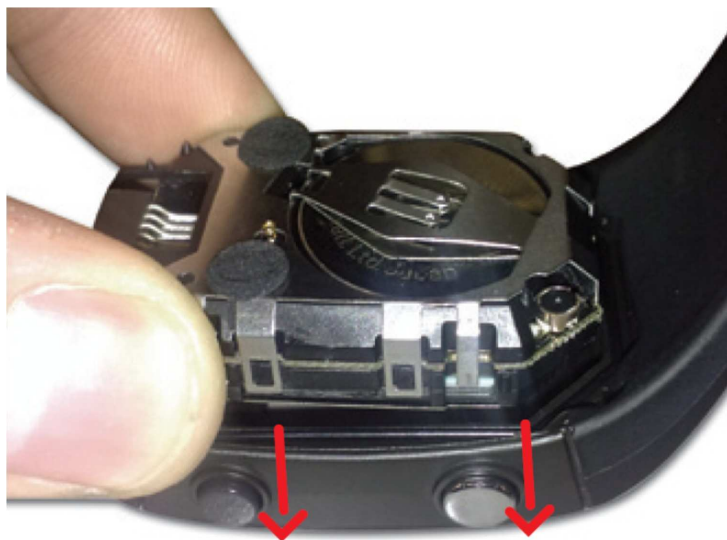
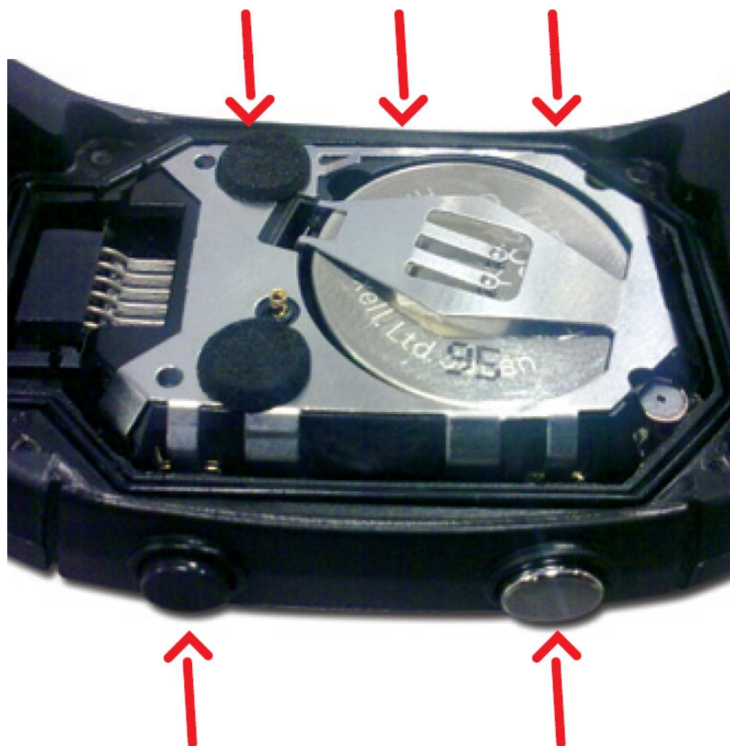

Figure 4-4. Chronos Watch Module Insertion Into Housing
Figure 4-5. Metal Strips of Watch Housing and Buttons of Housing
2. Gently insert watch module into the housing. Insert it in parallel to the housing. Do not try to insert one side first (see Figure 4-4). Ensure that the small metal strips of the buttons on watch module slide over buttons of the housing (see Figure 4-5).